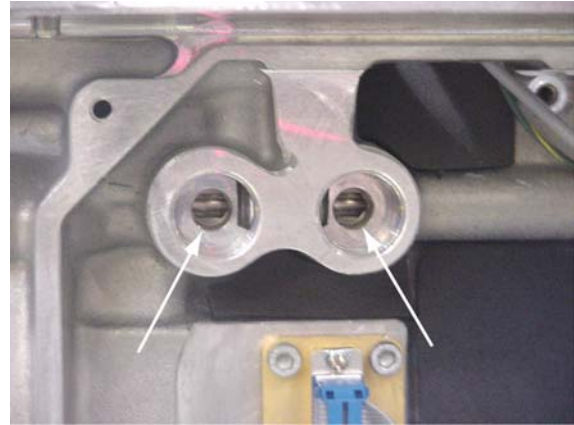

Figure 4-57 Solenoid Cooling Path
2. Ensure that the cooling paths are clean, as shown in Figure 4-57.